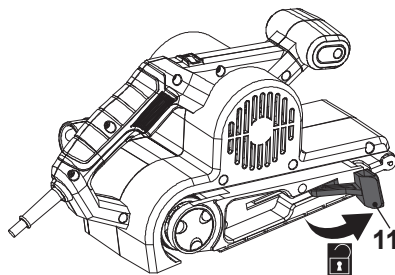

Fig. 1
1. Pull the clamp lever (11) outward (Fig. 1).